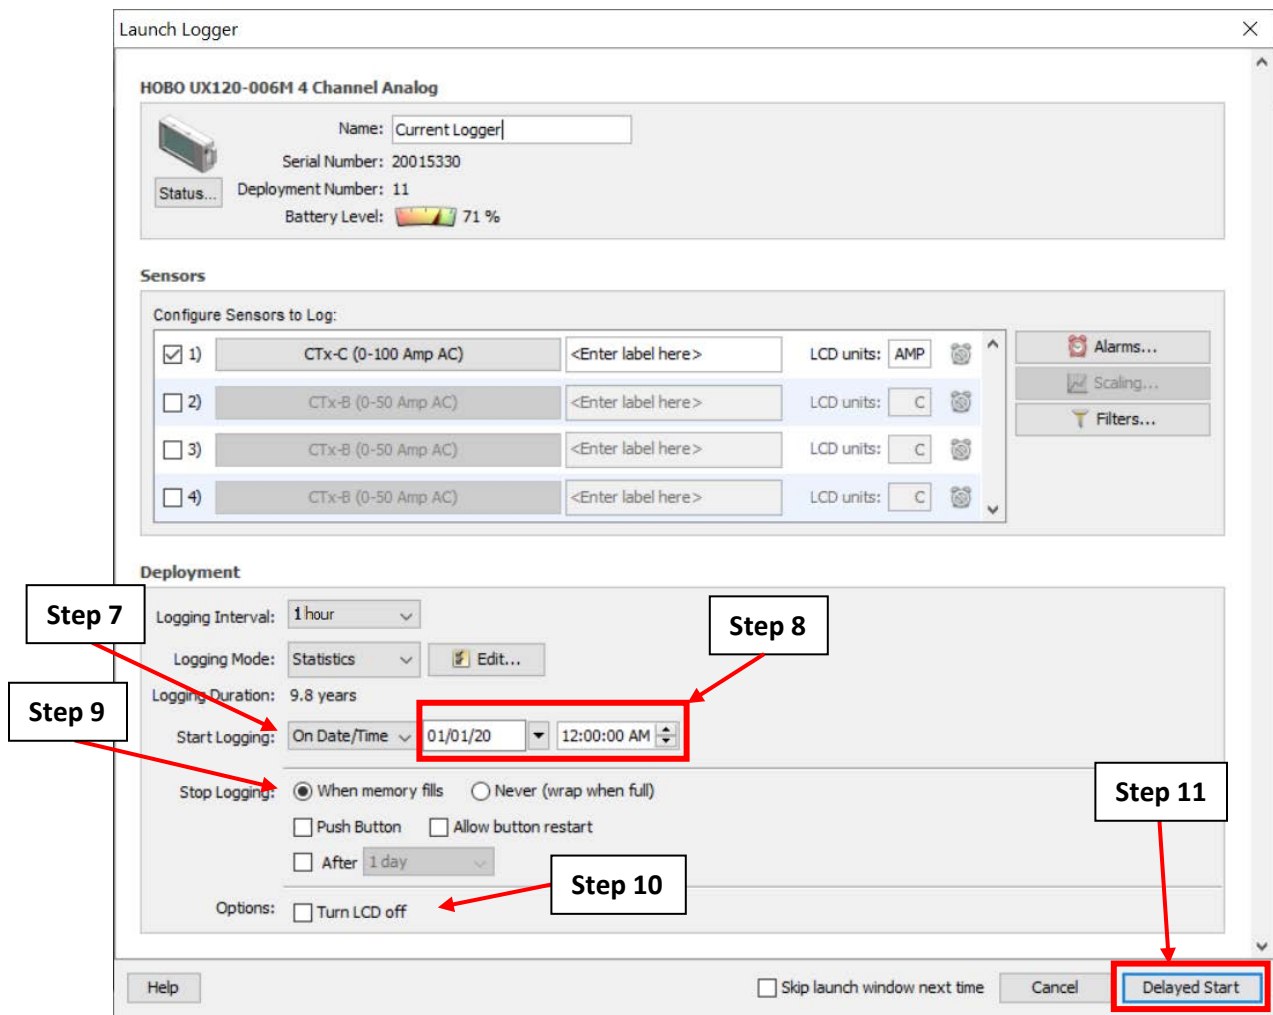

Figure A.4.8: The “Launch Logger” window with the deployment steps.
7. Back on the “Launch Logger” screen (Figure A.4.8), go to the “Deployment” table. Click on the “Start Logging” dropdown menu. Select “On Date/Time” to specify the date and time that the logger will begin to collect measurements.